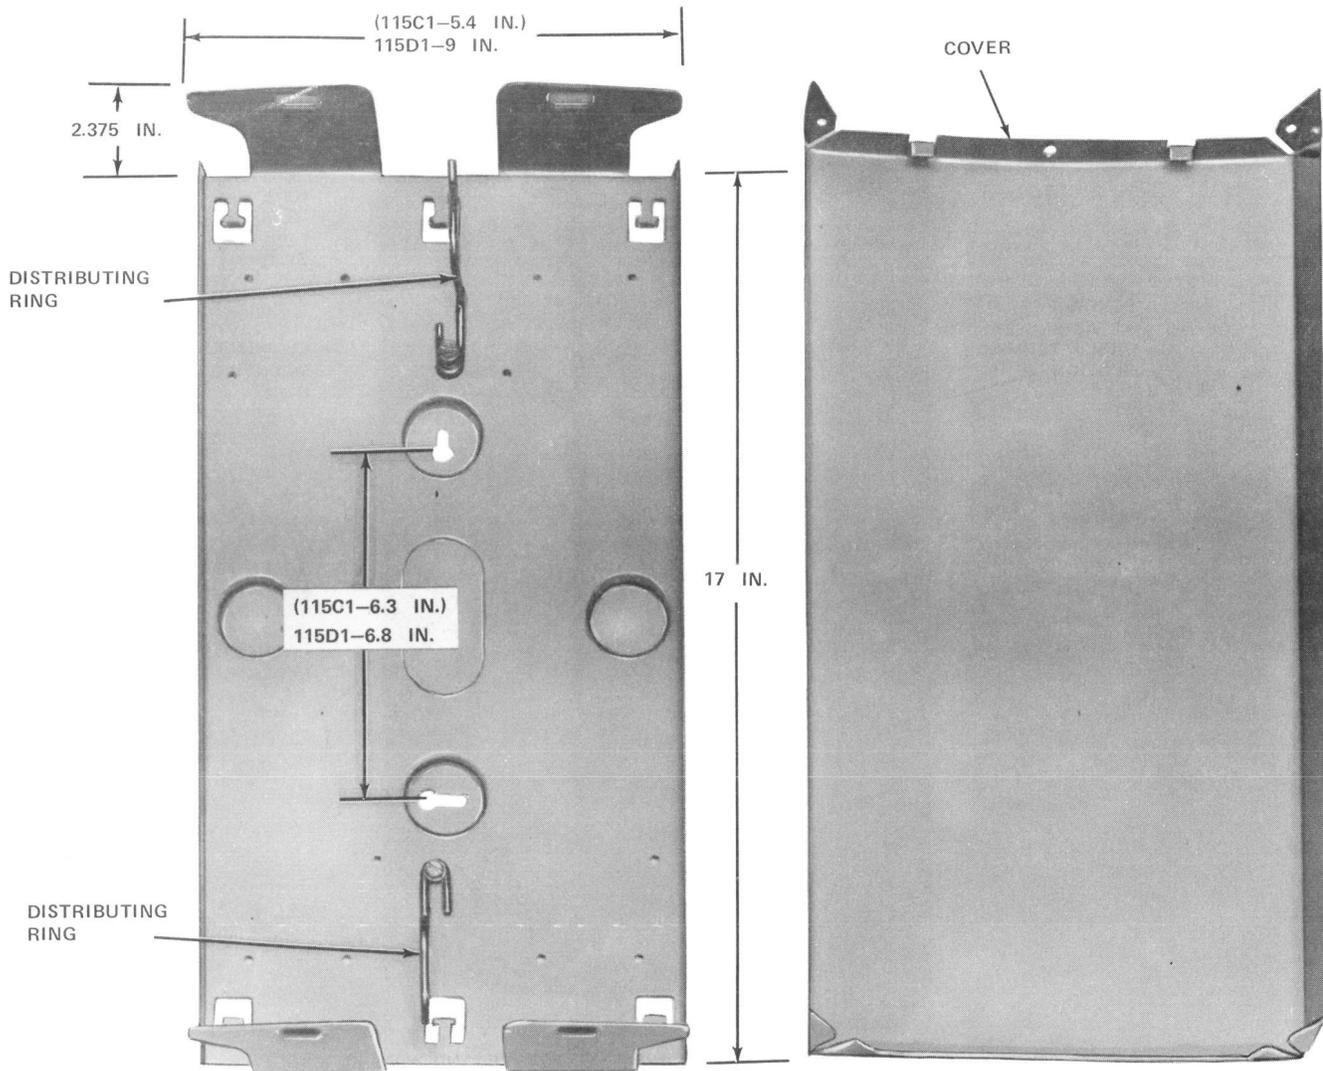

Fig. 8—115-Type Apparatus Box
2.12 The 115-type apparatus box (Fig. 8) consists of a light olive metal housing and snap-on cover which is reversible to permit opening from either the top or bottom of the housing. This provides greater flexibility of arrangement in space restricted locations. Distributing rings and hardware are provided for mounting connecting blocks.